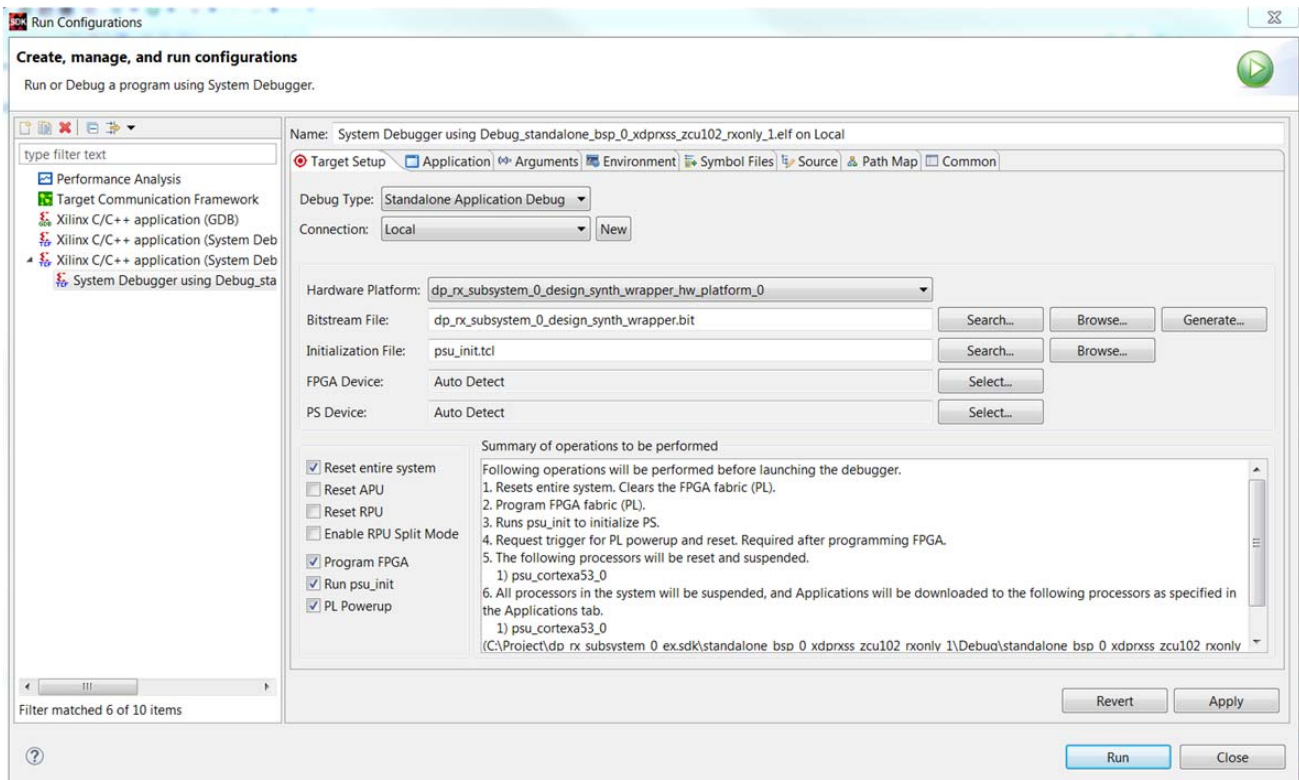

Figure 5-24: Target Setup
11. In the **Target Setup** tab (Figure 5-24), ensure the Connection is set to **Local** and the **Reset entire system** and **Program FPGA** are enabled. If running the ZCU102, also ensure that **Run psu\_init** and **PL Powerup** are enabled.